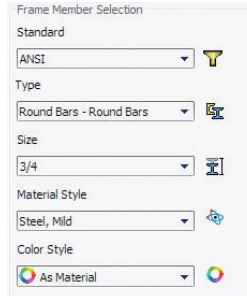

Figure 6, Setup for member selection.
6. Next, specify the frame type for the uprights. Select the member options as shown in Figure 6.